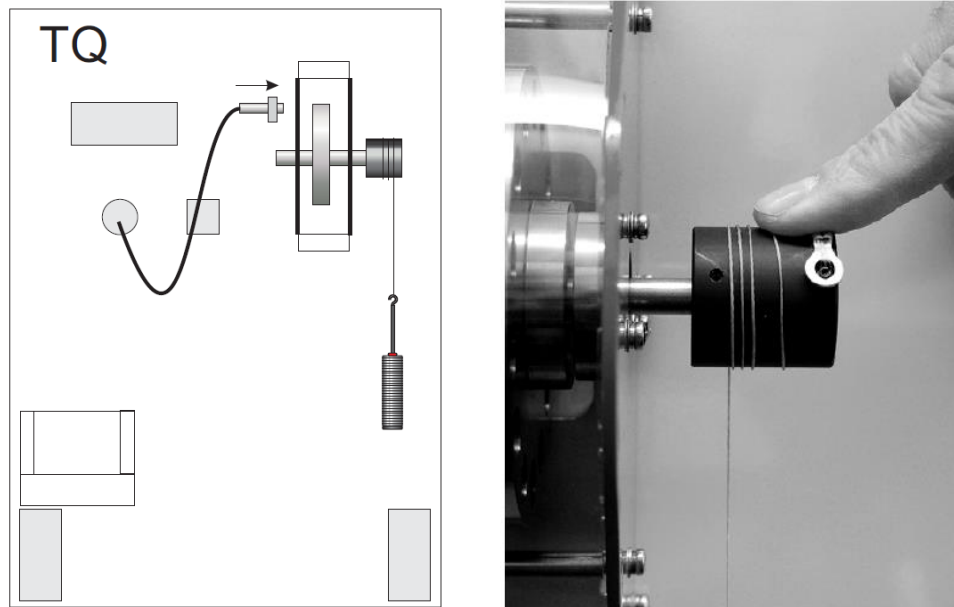

Figure 7: Flywheel inertia test setup.
The set-up for Experiment 2 is shown in Figure 7. Consult the Lab Engineer for the initial set-up procedure. Once the system is set up, follow the step-by-step procedure to complete the experiment and use Table 4 to input results.
1. Fit a cord and weight hanger as shown in Figure 7. Wrap the cord neatly around the load pulley, for at least four turns. The direction is not important.